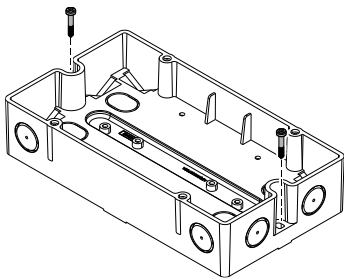

Fig. 4
3. Secure the housing to a flat surface using two screws (M4) (Fig. 4). Distance between mounting holes: 182.0±1.0 mm.